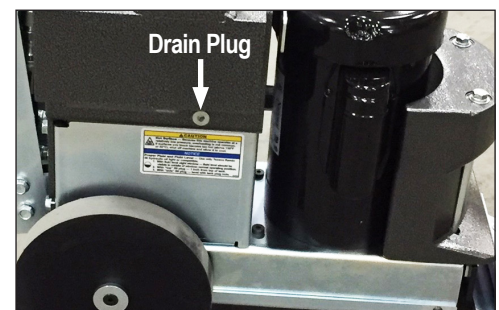

FIG. 13
- **To change fluid**, remove filler port cap. Remove drain plug from side of machine (Figure 13). A 2 gallon (8 liter) container will be needed to drain the fluid into. (Fluid will not be removed from hoses.) Regardless of the machine's straining system, add fluid through a filter or funnel with a screen to keep fluid clean.